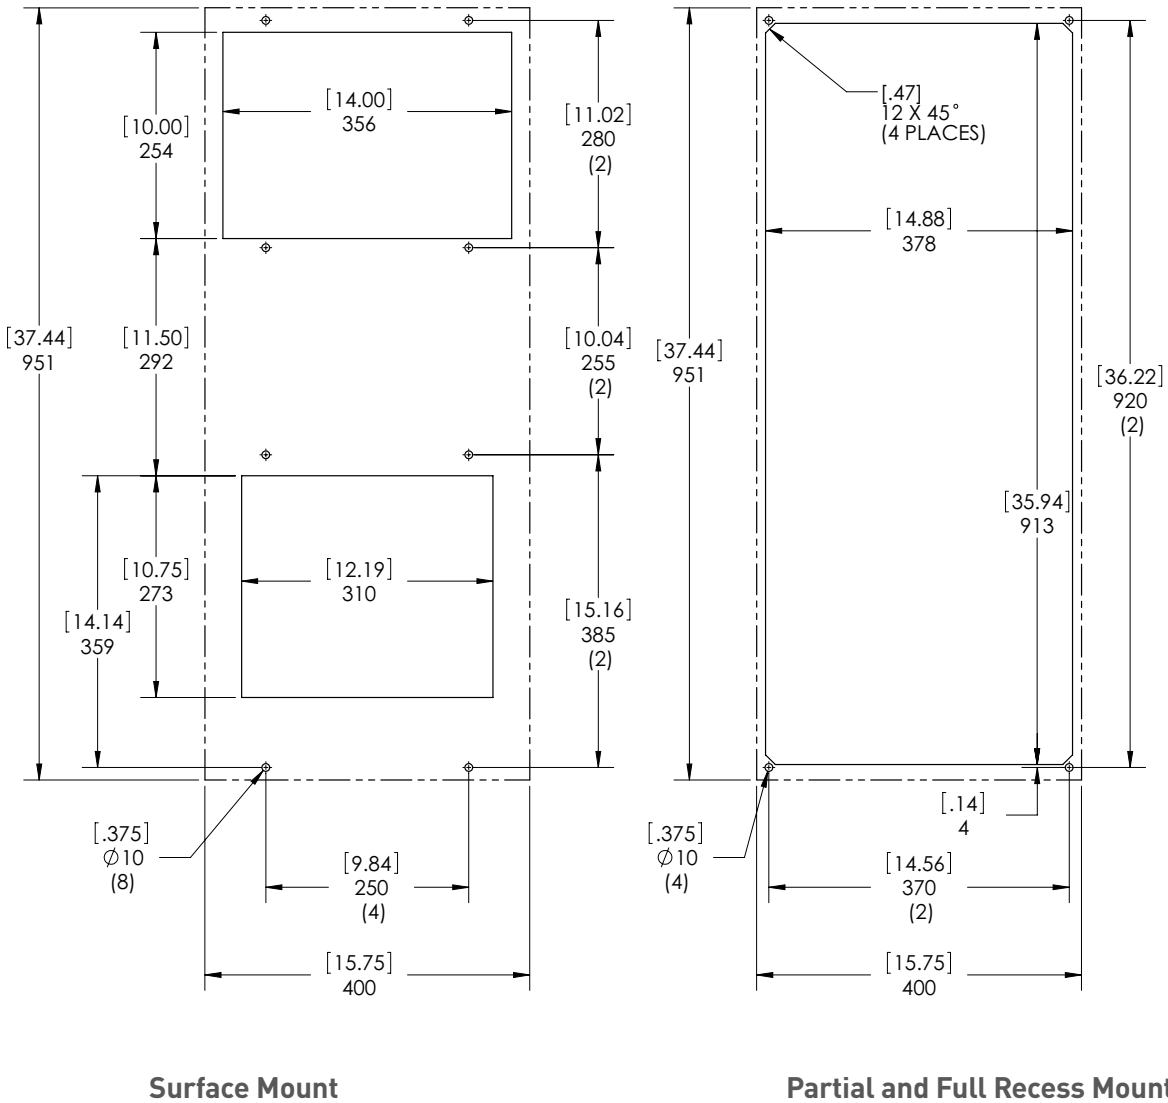

Figure 15
2. Using the cutout template provided with the unit, prepare the enclosure. See Figure 15. The front of the unit requires a half meter clearance for proper airflow. Five centimeters is required on each side of the unit. To avoid condensate overflow, unit must be mounted within 3° of level.